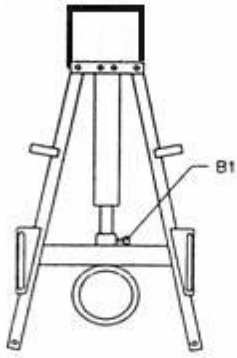
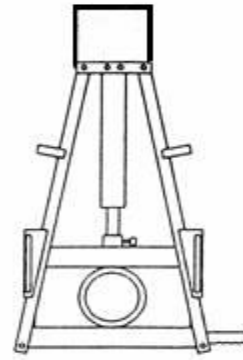

Figure 1.0 – Install Top Beam Then Lower
Figure 2.0 – Install Bottom Beam
- 1.2 Position the 'A' Frame assembly centrally over the pipe to be squeezed at the desired squeeze off point (Refer to figure 1.0). Then slide in the Bottom Beam ensuring that the bottom of the 'A' Frame locates in grooves on the underside of the Bottom Beam (Refer to figure 2.0).